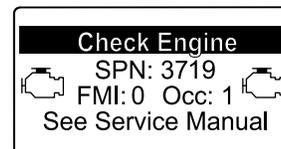

Figure 51
- If a recovery regeneration is needed, the InfoCenter displays engine warning SPN 3719, FMI 16 (Figure 51) and the engine computer derates engine power to 85%.